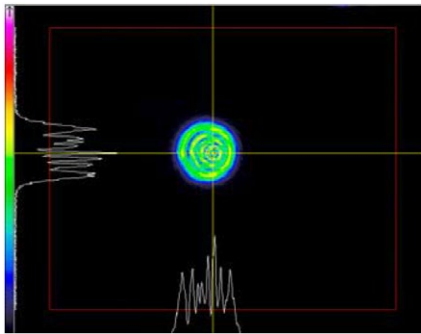

Figure 10. Diffraction pattern of $\varnothing 1$ mm.
g. Install the output aperture of $\varnothing 1$ mm and check diffraction pattern on the camera (fig. 10).